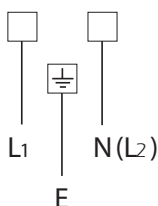

Figure 6
- Connect the new supply cable, of suitable type and section, to the terminal board following the diagram in Fig. 6.